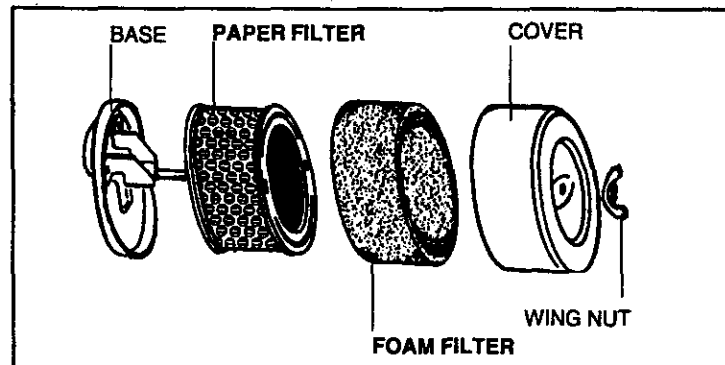

Figure 4
### ③ AIR CLEANER (see Figure 4):
#### A. TO SERVICE FILTER(S) (see Figure 4):